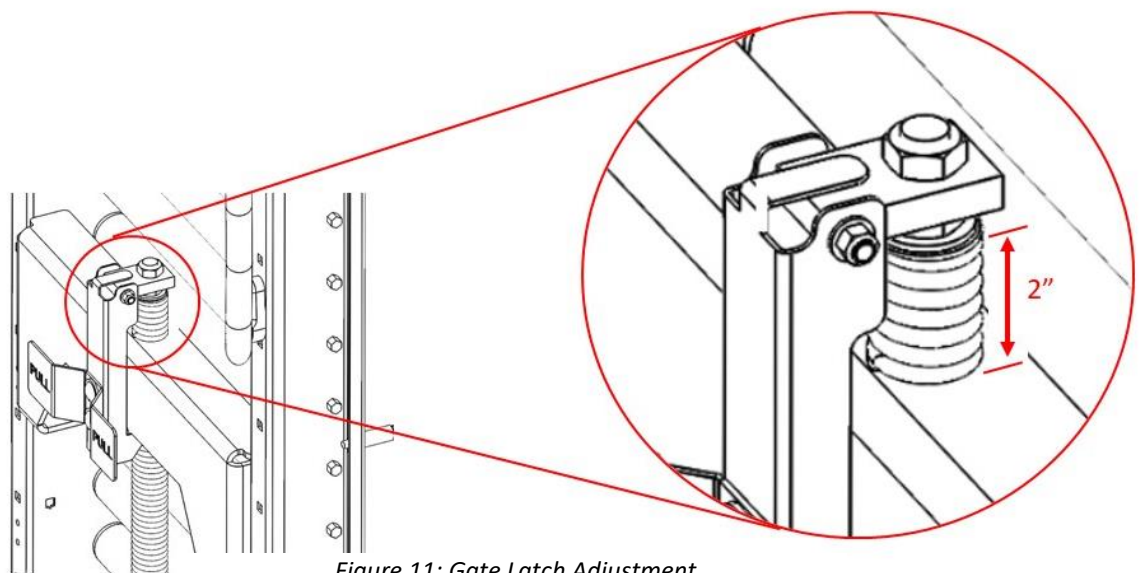

Figure 11: Gate Latch Adjustment
9. After the springs have been tensioned, adjust the hex nut at the top of the threaded rod to compress the small spring. With the gate opened vertically, the compressed height of spring should be 2" as shown in Figure 11. If the spring is compressed correctly the gate latch assembly
should “latch” to the bed spacer when the gate is opened vertically. To close the gate, pull the latch handle while applying pressure to the gate horizontally. (See Figure 11)